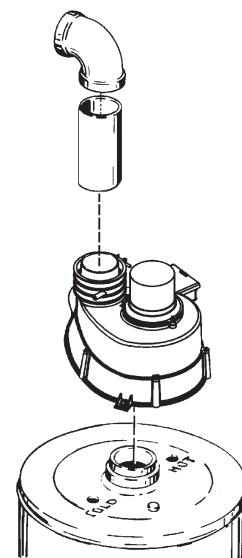

FIGURE 15. BLOWER ASSEMBLY
For your convenience instructions on proper installation through a sidewall are provided in Figure 15 and the numbered points below:
1. Layout the total vent system to use a minimum of vent pipe and elbows. Take into consideration that an elbow will be necessary to make the first vent pipe connection to the power venter outlet, see Figure 15.
3. The blower discharge adapter is made to accept only straight sections of 3" pipe. To start a minimum of 2 inches of 3" pipe must be attached to the blower discharge, see Figure 15.
5. The blower discharge boot is made to accept only straight sections of 3" pipe. To start off with an elbow, a short section of the furnished pipe, a minimum of 2 inches, must be cut and glued into the end of the elbow that will mount on the discharge boot, see Figure 15.